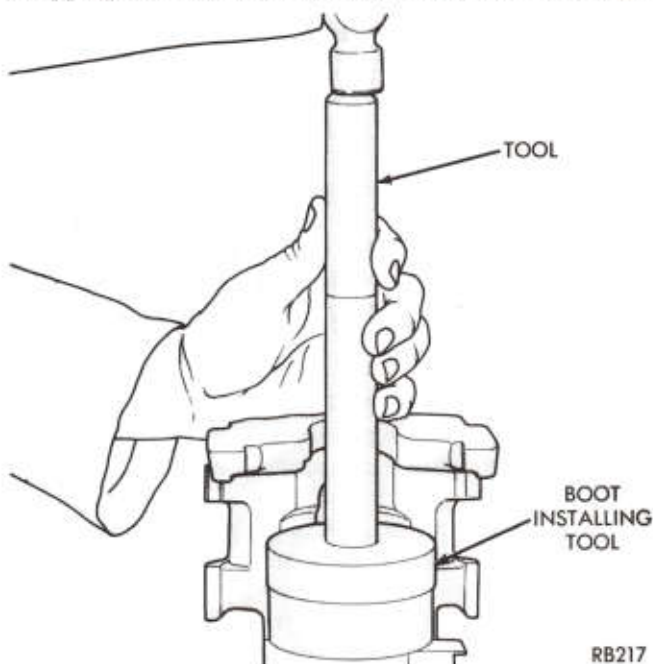

Fig. 17—Installing Piston Dust Boot
(6) Position the dust boot in the counterbore. Using a hammer and Tool C-4690 with handle C-4171, drive the boot onto the counterbore (Fig. 17).